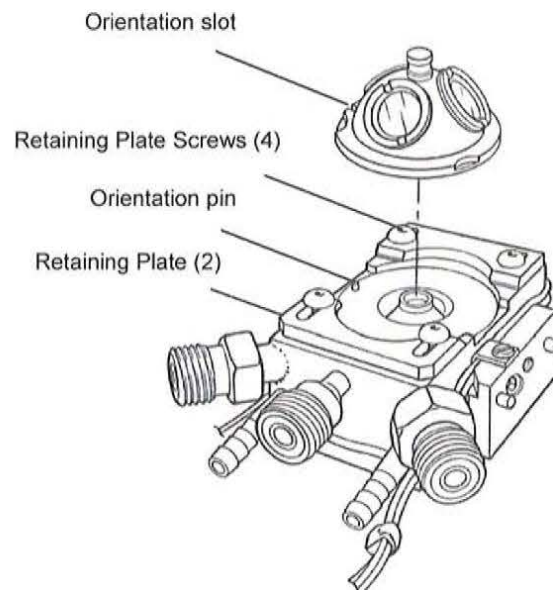

Figure 11 • Installing the HVC Dome
- Install the dome making sure that the orientation slot on the dome engages the orientation pin on the HVC (Figure 11).